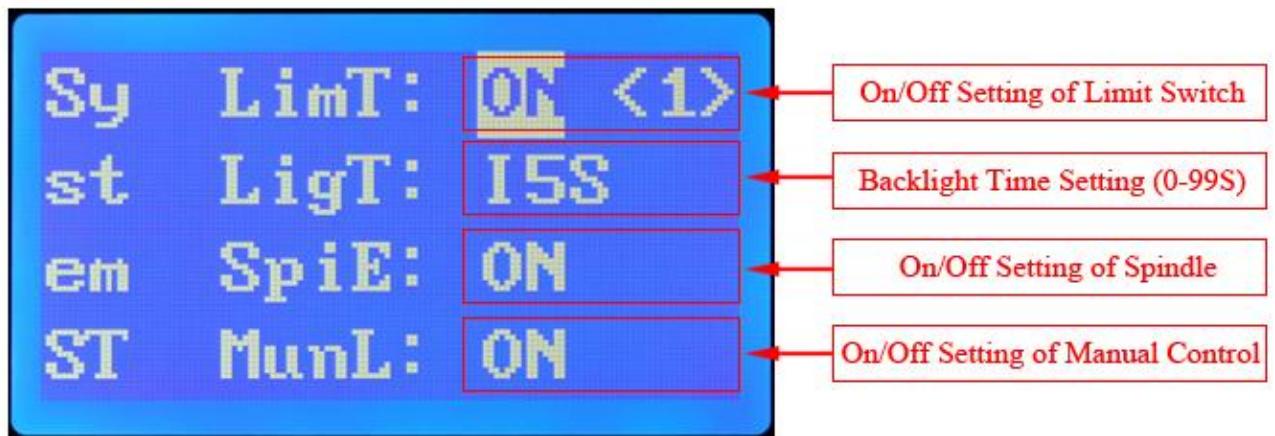

Figure 4: Main Functions Setting
- After finishing “Cutter-presetting/Tool-Setting”, please press the “ST” key on control pad again to skip to the “Main Function Setting” in “Figure 4”.